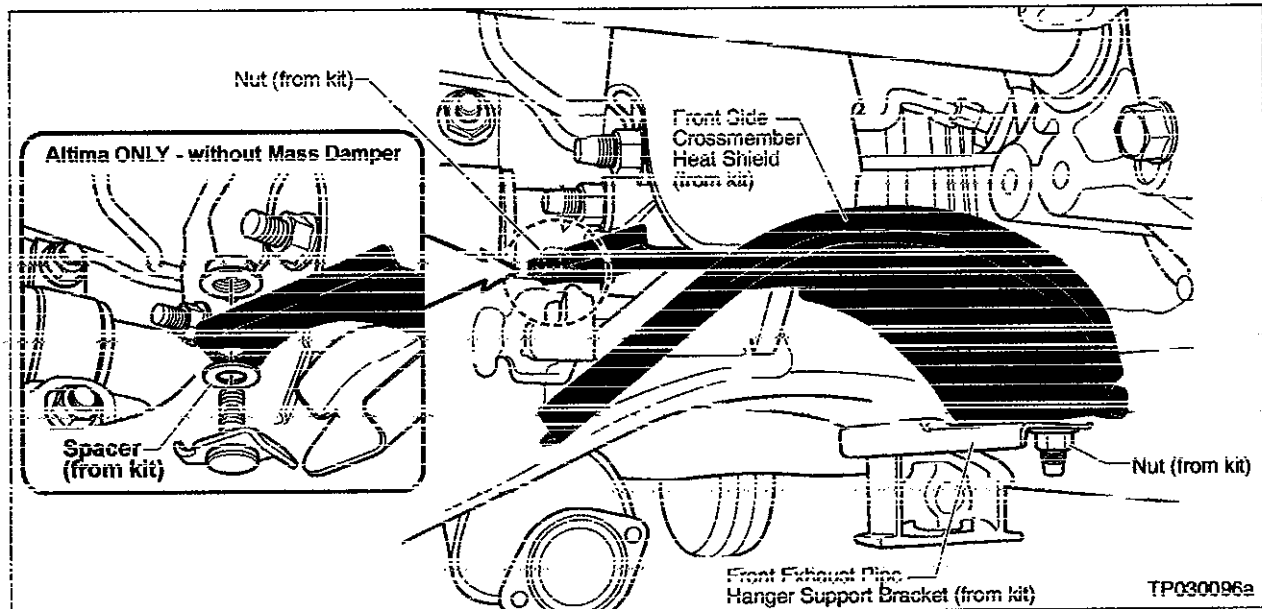

Figure E20
26. Install the new Front-Side Crossmember Heat Shield to the Mass Damper and to the newly installed Hanger Support Bracket with two nuts (P/N 08918-3401A-KT). See Figure E20.
NOTE: Some Altima vehicles may NOT be equipped with a Mass Damper. If this is the case, add the new Spacer (supplied in the kit) between the heat shield and the crossmember mount (see Figure E20).